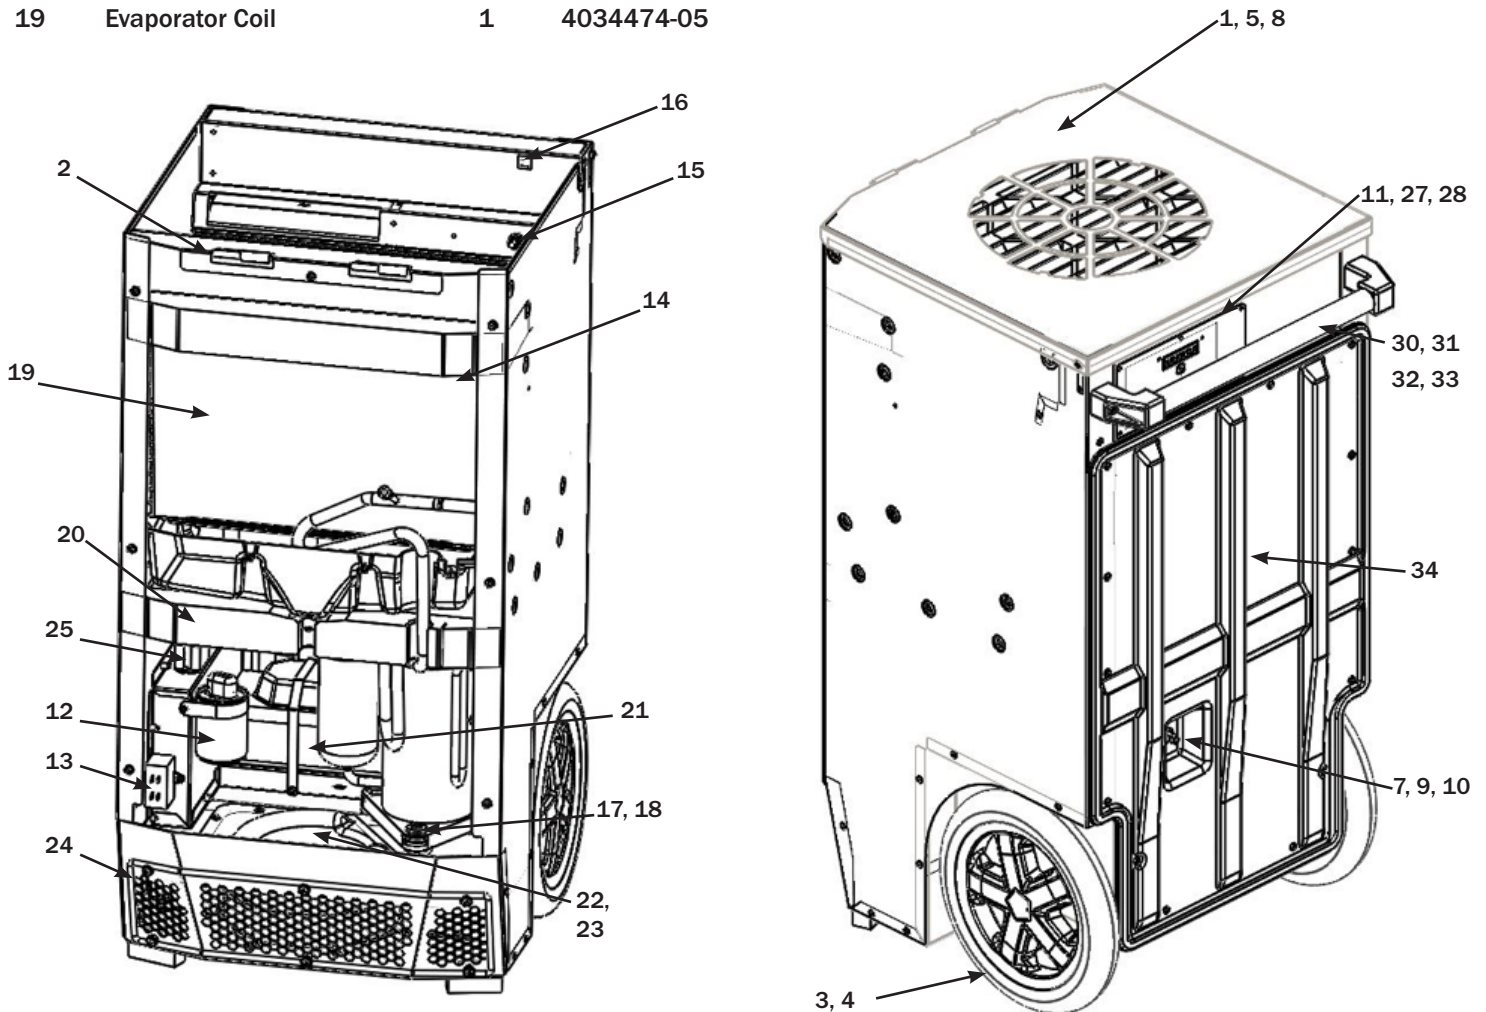

Figure 4
3. Push the plastic plug on the right side (see Fig. 4) out from inside the unit.